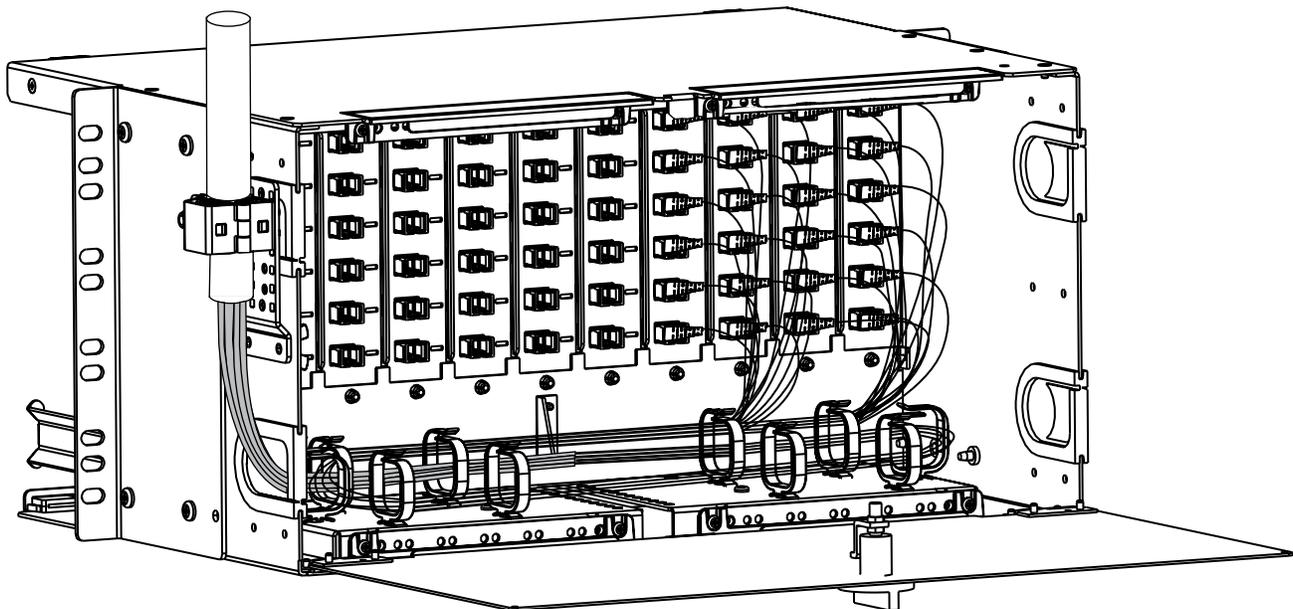

Figure 6
- Step 3:** Install connectors into the adapters at the rear of the connector panels (Figure 6).